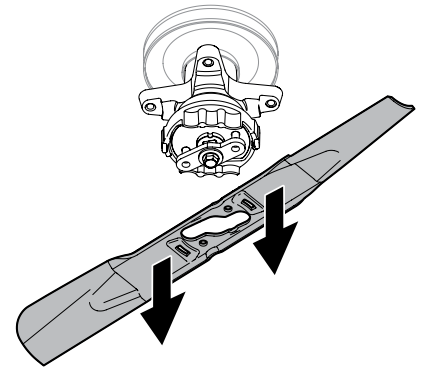

Figure 4-8
5. When the hole in the center of the blade aligns with the rider blade retainer, carefully lower the blade. See Figure 4-8.